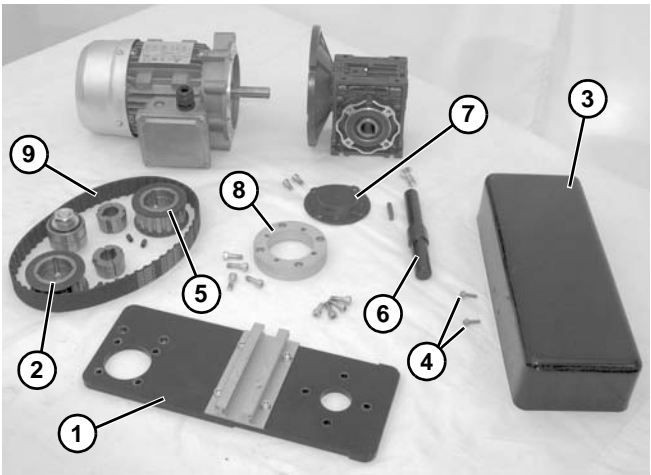

Figure 5
1. Typical components (**Figure 5**).